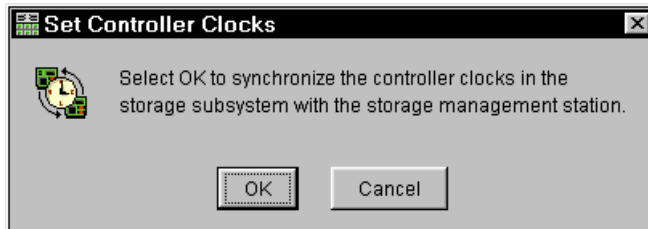

Figure 4-27 Setting the controller clock
3. Since the FAST Storage Server stores its own event log, synchronize the controller clocks with the time of the host system. Be sure that your local system is working using the correct time. Then click **Storage Subsystem-> Set Controller Clock** (Figure 4-27).